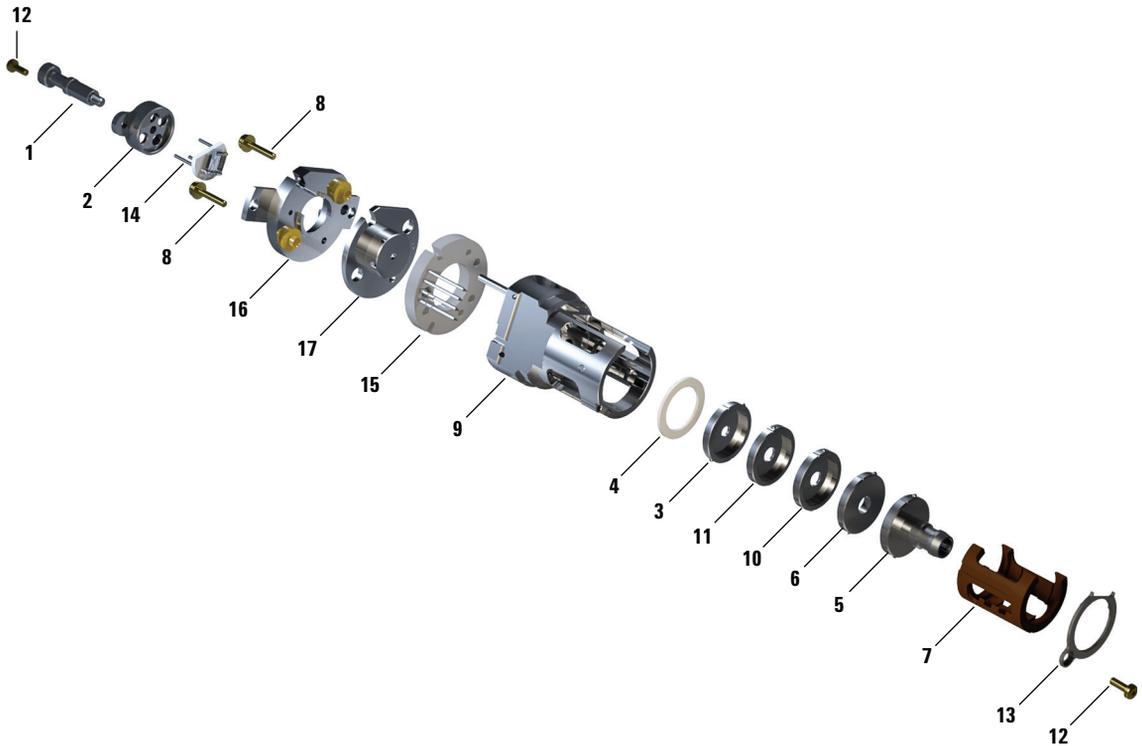

Figure 53 Assembling the EI HES
Refer to the exploded parts view Figure 53 and the EI HES parts list Table 18 on page 166 while using this procedure.
- 3 Insert the lens stack encased in the insulator into the source body. (See Figure 53 on page 166.) The engraved numbers face the full opening extending to the end of the source body. Verify that the ceramic is sitting flush at the end of the source body.
Table 18 Parts list for EI HES (Figure 53)
Table 18 Parts list for EI HES (Figure 53) (continued)